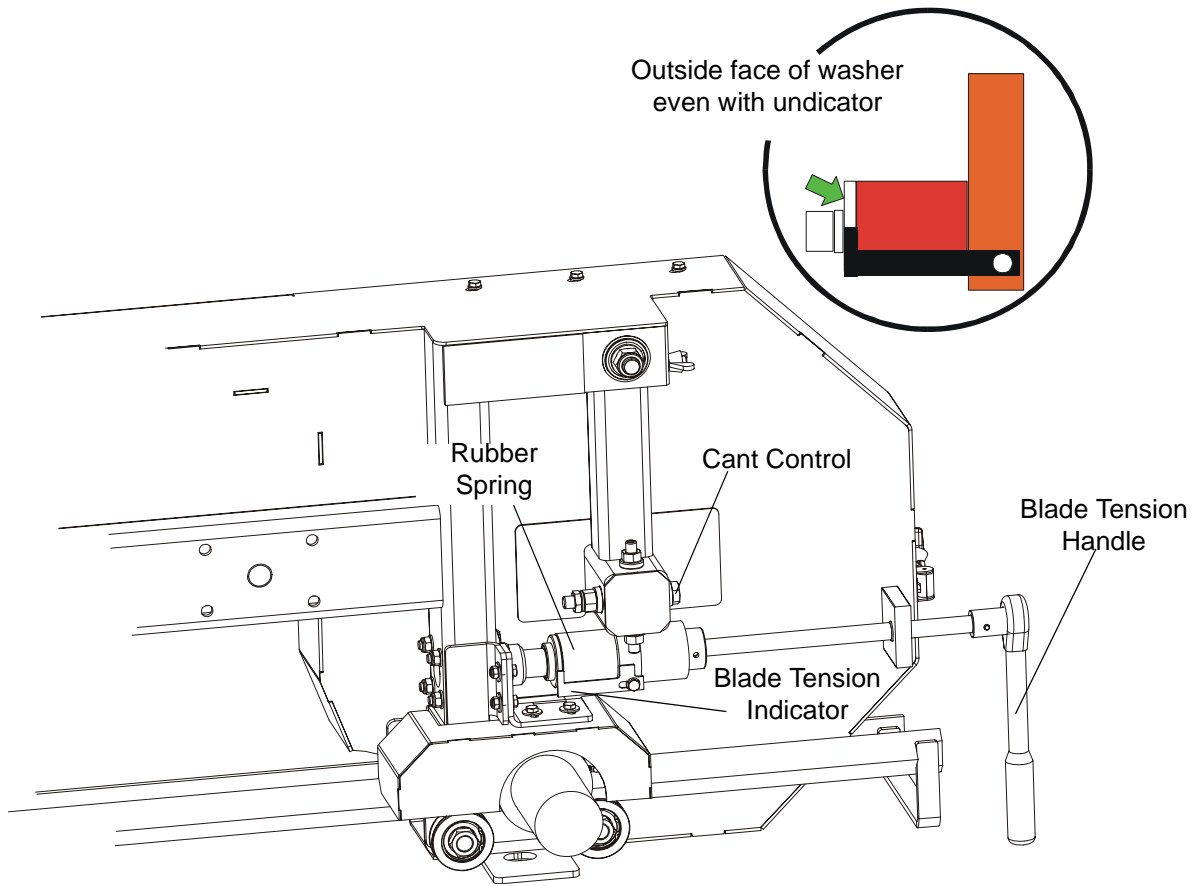

FIG. 2-11
5. Use the cant adjustment bolt, shown in **Figure 2-11** to adjust where the blade travels on the blade wheels.